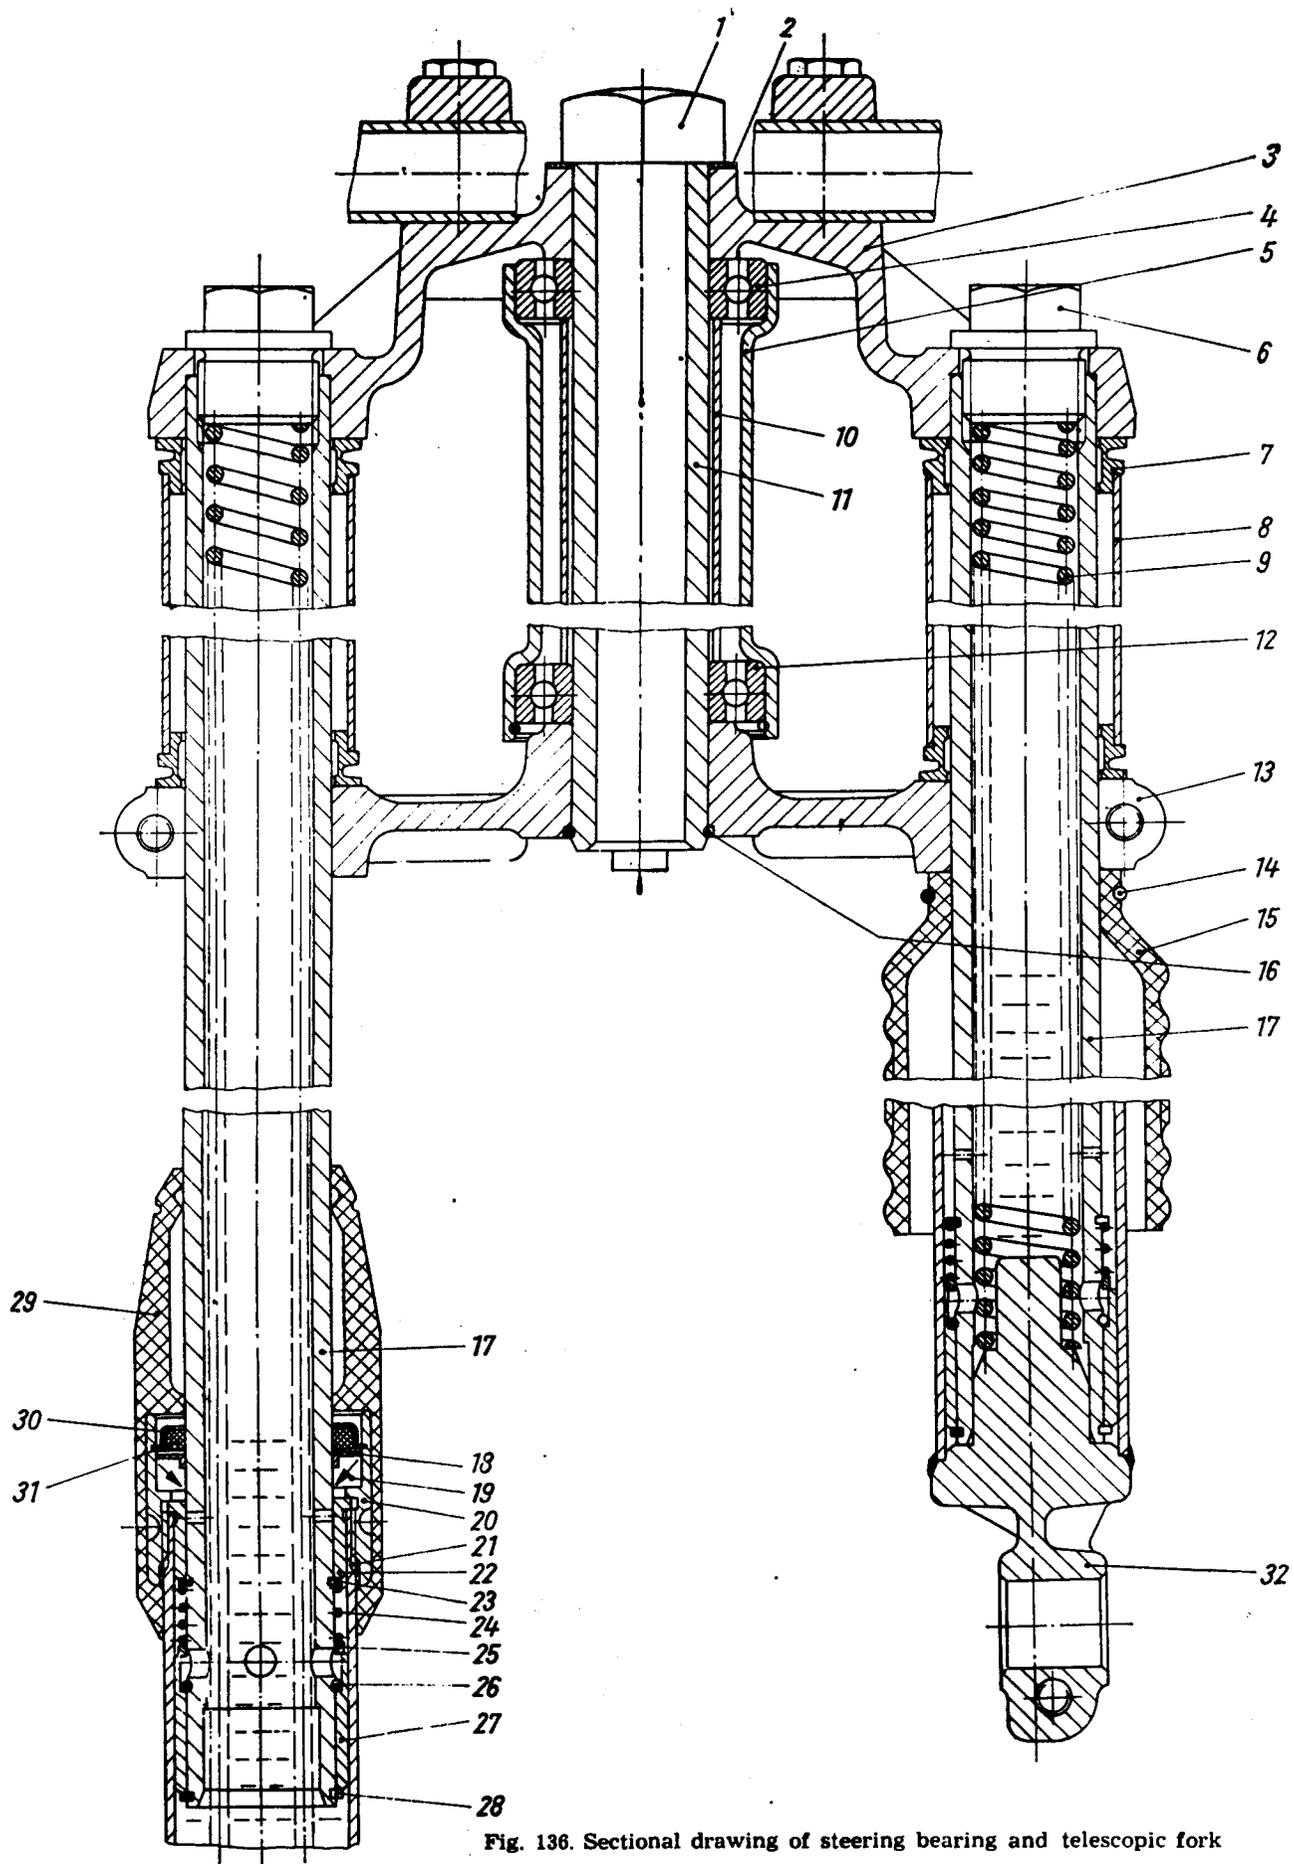

Fig. 136. Sectional drawing of steering bearing and telescopic fork
(See Fig. 136, page 54)
7.2.2.2. Telescopic Fork (see Fig. 136)
Legend for Fig. 136 on page 54